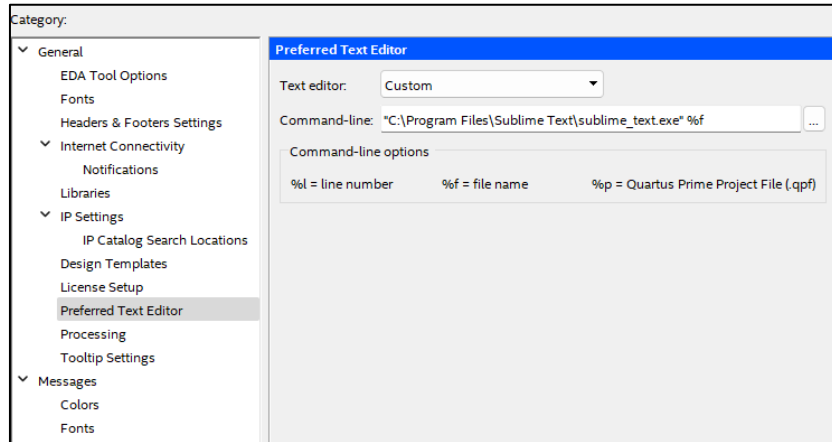

Figure A1. Configuring Sublime Text as the default text editor.
5. You will need to add %f (and potentially some command line switches) after the executable as shown in Figure A1.